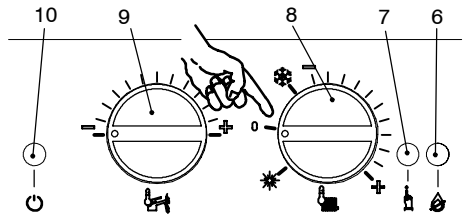
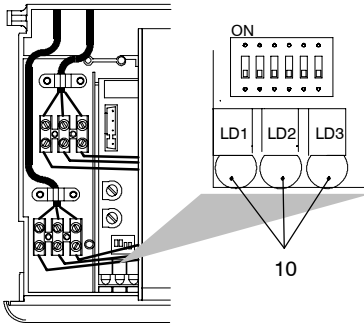
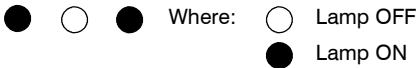

Fig. 8.3
Fig. 8.5
Fig. 8.6
- 10 Turn the boiler OFF positioning the function selector 8 as indicated in Fig. 8.3
14 Press the reset button 7 (Fig. 8.3) repeatedly (4 times) until the lamps 10 give the indication as in Fig. 8.5 – Fig. 8.6 (gas type mode).